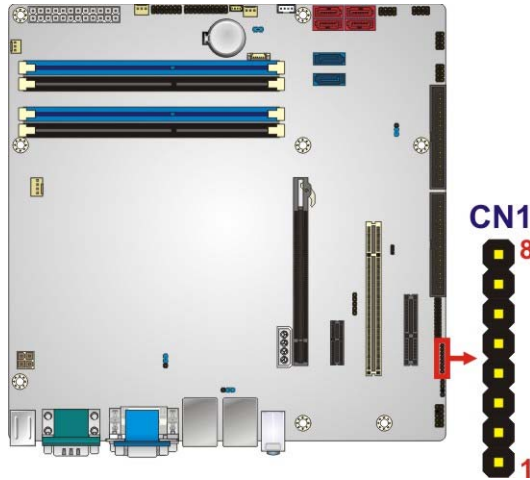

Figure 3-9: FW Programming Connector Location
- CN Location:** See **Figure 3-9**